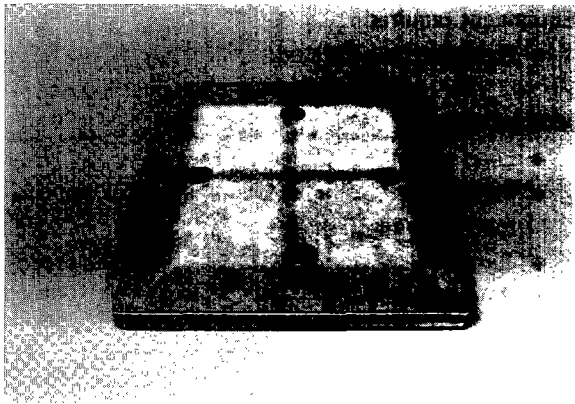
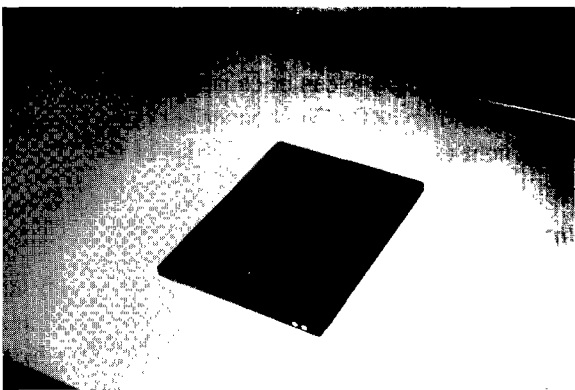

Fig 2-1. Light/X-ray beam alignment test using eight coins
Fig 2-2. Light/X-ray beam alignment test tool. Radiation Measurements Inc.
- Alignment test tool. Commercially made test tools are available, but a simple alternative is to use eight coins or four paper clips (see Fig 2-1, Fig 2-2).